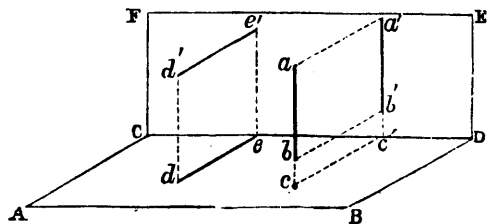

Fig. 25.
14. A DRAWING of any solid object is the projection of that object on one or more planes, giving one or more views of it. We will state what a projection is, and what are the names given to the different views. In fig. 25 ABCD is the horizontal plane (your drawing-
board, for instance); CDEF the vertical plane; let a line *ab* be held perpendicular to the plane ABCD (and therefore parallel to the plane CDEF) at a distance *bc* above it and in front of the plane CDEF. If now the line *ab* is produced to meet the plane ABCD in *c*, the point *c* is the projection of the line *ab*; \* from *a*, *b*, draw lines perpendicular to the plane CDEF, meeting it in *a'*, *b'*, then *a'*, *b'* are projections of *a*, *b*; and if *a'*, *b'* be joined, the line *a'b'* is a projection of *ab*. *c* is called a "*plan*," and *a'b'* an "*elevation*" of the line *ab*. The two planes ABCD, CDEF, which are considered to be at right angles in fig. 25, are really one (the plane CDEF being turned down through a right angle), and are represented by the drawing-paper; the line CD in which the planes intersect is the "*ground line*" in our drawings, the line which divides the plan from the elevation.